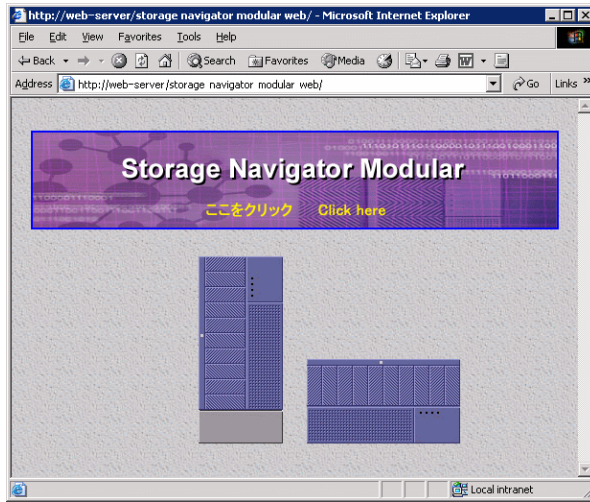

Figure 4.2 Storage Navigator Modular Log in Window
1. In the Storage Navigator Modular screen, select **Click here** to log on. See Figure 4.2.